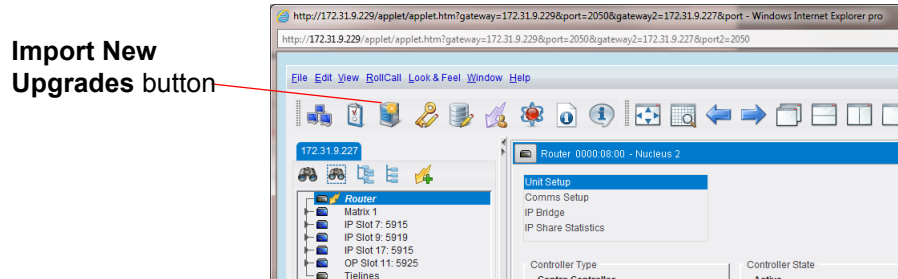

Figure 72 Import New Upgrades Screen
- Click on the **Import New Upgrades** button () in the main tool bar (see Figure 72).